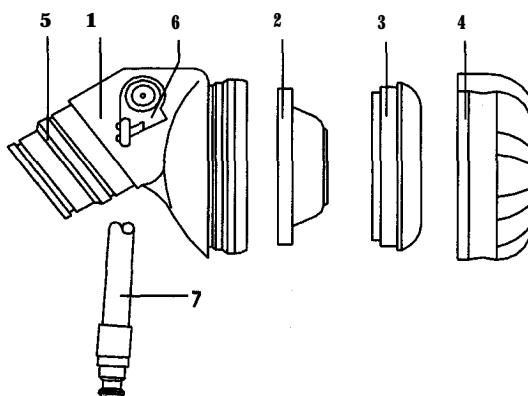
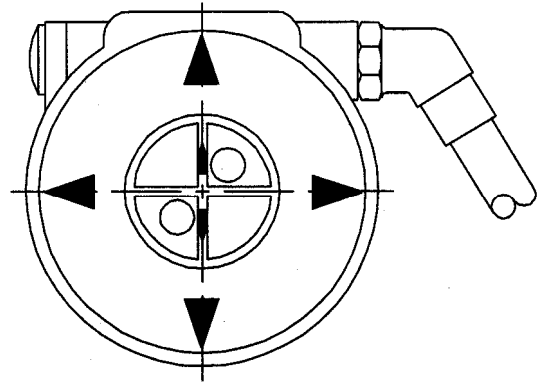

Figure 1
Figure 2
It is important to follow these instructions to internally clean and disinfect the lung demand regulator (Refer to Figure 1).
1. Press reset lever (Figure 1; 6) of lung demand regulator. Do **not** press center of rubber cover (Figure 1; 4) while pressing reset lever, or force lever against stop.
2. Remove rubber cover (Figure 1; 4). Using plate spanner (P/N **R26817**), unscrew bayonet cap (Figure 1; 3).
3. Carefully unhook diaphragm (Figure 1; 2) from lever of balanced piston lever.
4. Assemble rubber cover (Figure 1; 4) to demand valve body to protect balanced piston lever.
8. After disinfection, remove rubber cover (Figure 1; 4) and rinse components in clean water. Take care not to damage balanced piston lever.
12. **After** drying, insert balanced piston lever into hole in center boss of diaphragm (Figure 1; **2**), (chamfered side of boss towards lever) and carefully locate outer bead of diaphragm into groove in demand valve body ▪ note orientation (Figure 2).
13. Moisten lip of bayonet cap (Figure 1; 3) with clean water. Re-fit bayonet cap.
(See Figure 2).*
14. **Assemble** rubber cover (Figure 1; 4).